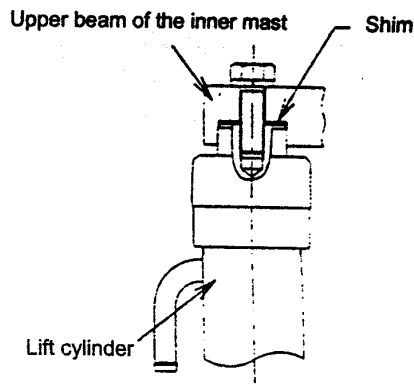

Fig8.3
8.6.1 Adjustment of lift cylinder (Fig8.3)